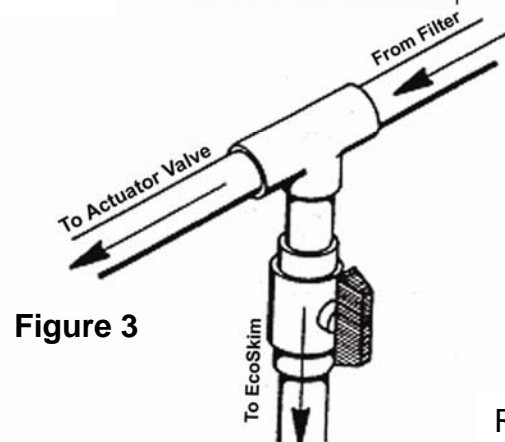

Figure 3
3. Water is directed to the EcoSkim by installing a Tee fitting with a 2" to 1 1/2" reducer just ahead of the in-floor cleaning water valve and installing a 1 1/2" ball valve just below the Tee (see Figure 3). This valve is fully open during the operation of the EcoSkim. If a DE filter is used on the system, this valve must be closed when charging the filter through the skimmer.